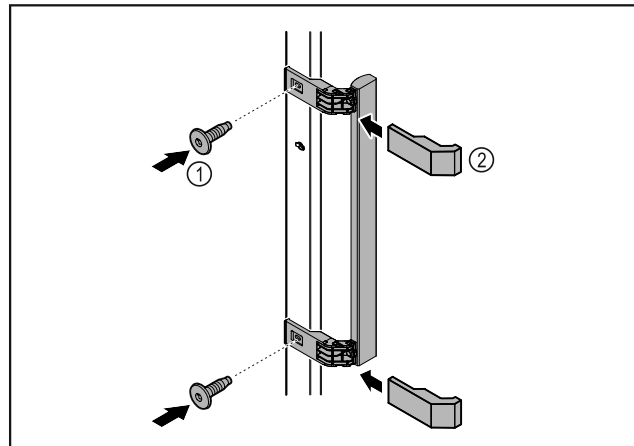

Fig. 7
- ▶ Attach handle from accessory kit to the door using the screws supplied Fig. 7 (1).
- ▶ Put on covers Fig. 7 (2).